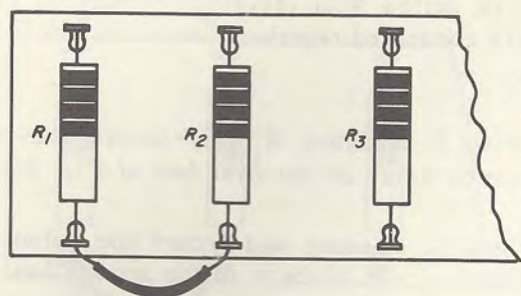

Fig. 8-11
Step 1. Connect the 100-ohm resistor R_1 in series with the 220-ohm resistor R_2 , as shown in Fig. 8-11.